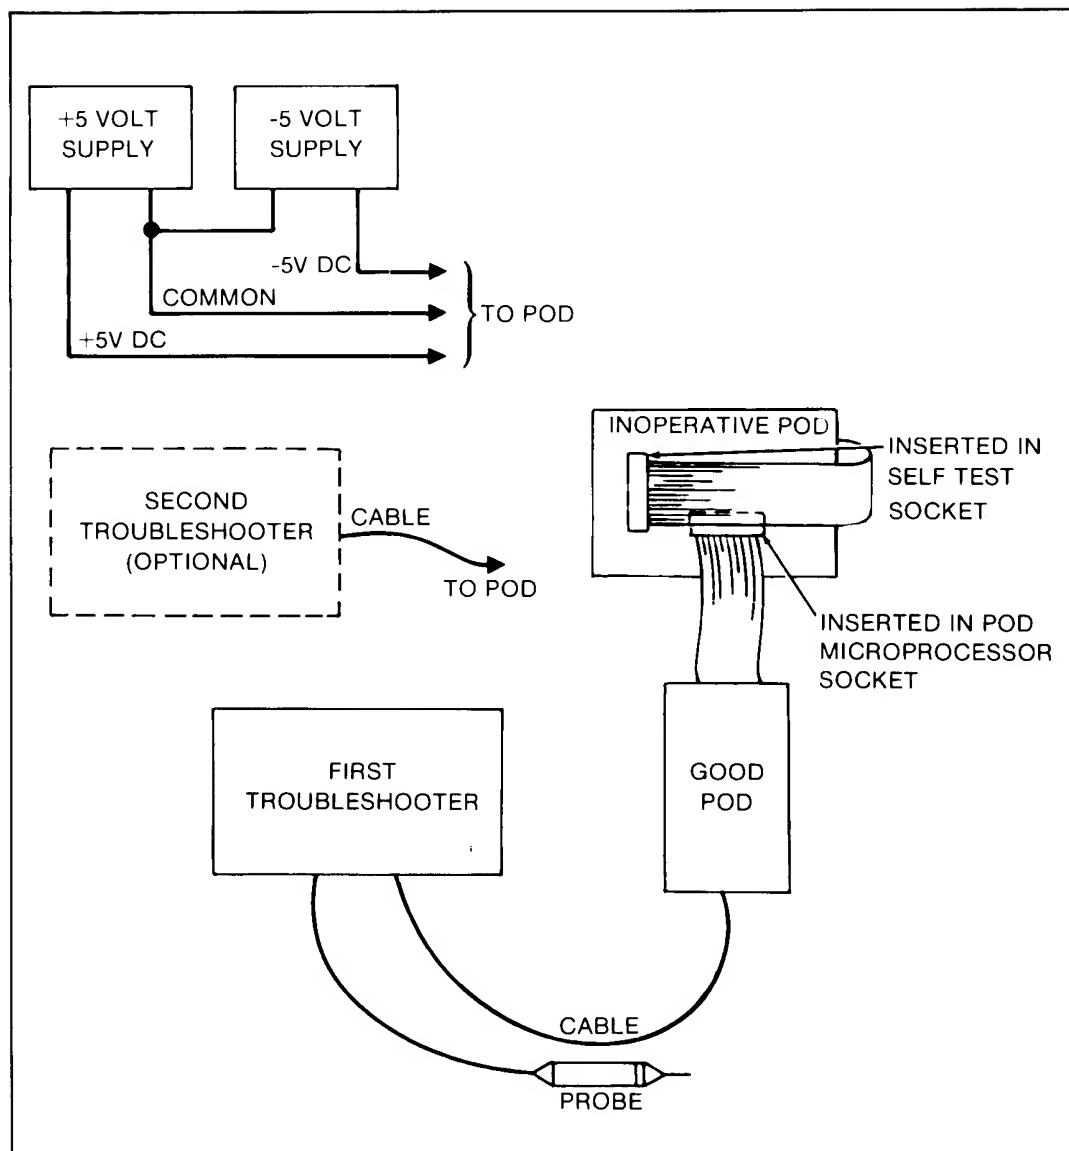

Figure 6-2. Troubleshooting an Inoperative Pod
4. If a second troubleshooter is available, connect the pod cable plug from the inoperative pod to the second troubleshooter to supply the inoperative pod with power. If a second troubleshooter is not available, connect a +5V dc (2 amp) and a -5V dc (200 mA) power supply to the pod as shown in Figure 6-2. An easy place to make the power connections is at the connector that usually connects the cable to the troubleshooter.
7. Connect the troubleshooter to the good pod as shown in Figure 6-2. Apply power to the troubleshooter, then install the ribbon cable plug of the good pod in the microprocessor socket of the inoperative pod.